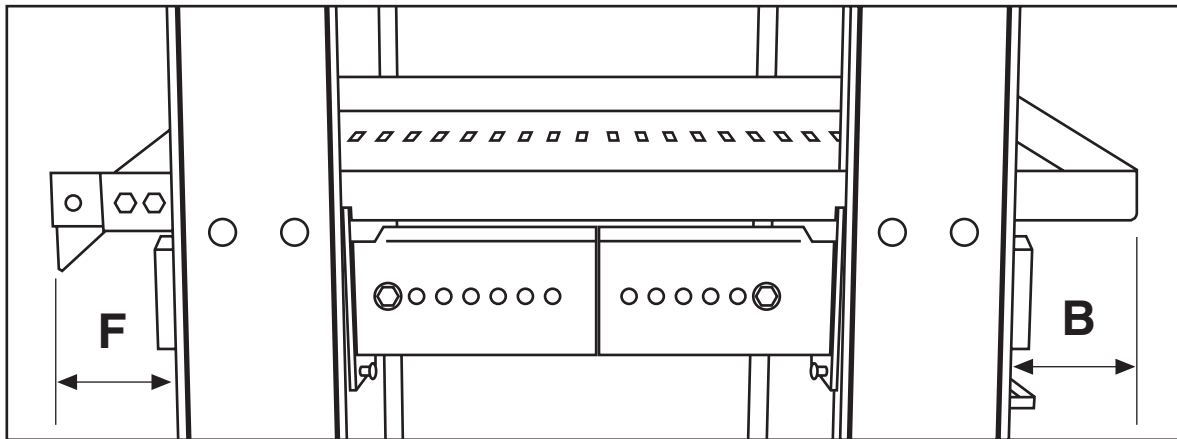

Figure 2. Front and rear dimensions.
- Install the stop brackets on the Pull-Out Shelf using the #8-32 hardware. Use the mounting holes from Table 3-1. See Figure 2 for the location of stop bracket mounting holes. The Pull-Out Shelf is now ready to be installed in the Freedom Rack.